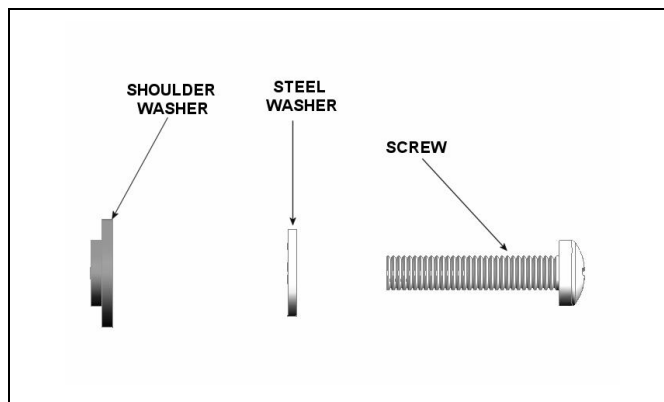
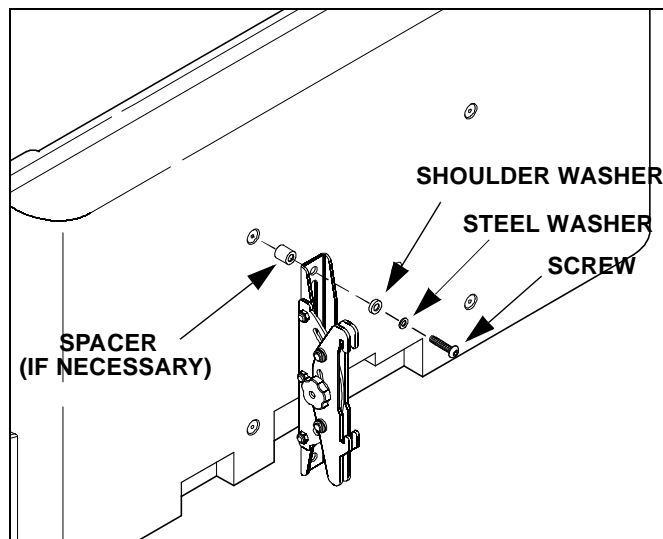
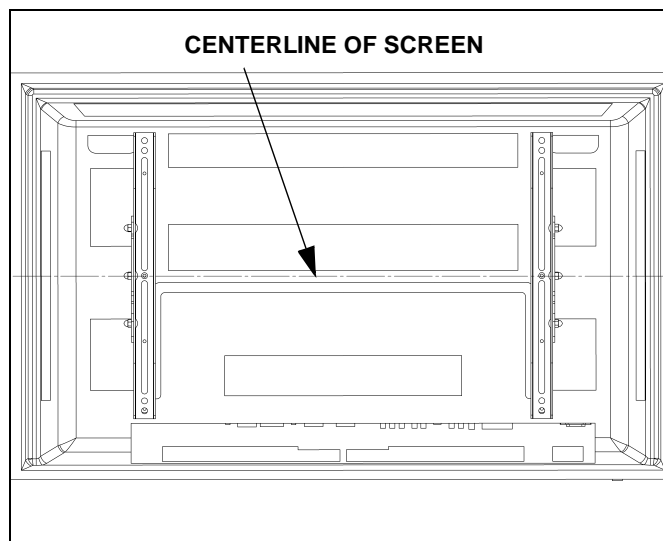

Figure 4
Figure 5
Figure 6
2. Position the interface bracket assemblies (20 and 30) with the tension knob on the tilt bracket faced toward the outside of the display. (See Figure 5)
4. Secure the left and right factory assembled interface bracket assemblies (20 and 30) to the display. Select the mounting hardware that fits your application. (See Figure 4) and (See Figure 5)
- Use M6 screws (70 or 80) or M8 screws (40, 50, or 60), steel washers (160), and shoulder washers (200).
- Or, use M4 screws (120, 130, or 140) or M5 screws (90, 100, or 110) steel washers (150), and shoulder washers (190).
5. Find the center line of the display once again. (See Figure 6)
6. If necessary, remove the attaching hardware and move the tilt brackets as close to the center line of the display as possible. Re-install the tilt brackets onto the interface brackets. (See Figure 6)